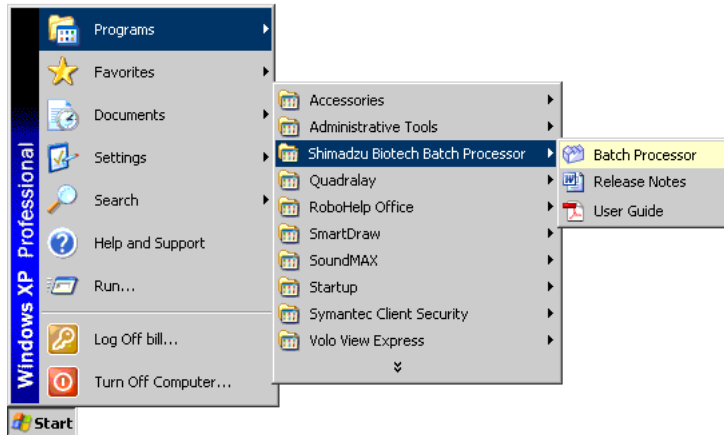

Figure 34.1 Starting the Batch Processor
1. Select **Batch Processor** from the MALDI-MS programs menu on the Taskbar (Figure 34.1).